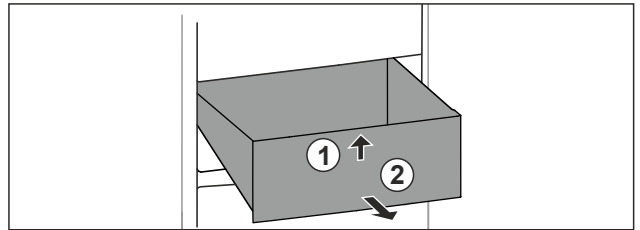

Fig. 104
- Lift up drawer at the front. Fig. 104 (1).
- Remove drawer to the front. Fig. 104 (2).